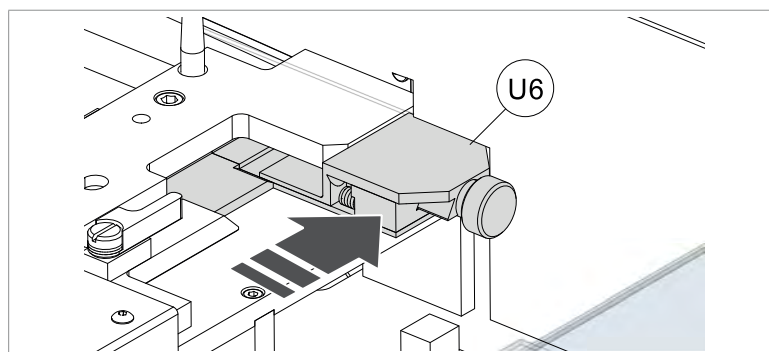

Fig. 134
- 17) Open the flap and take the feeder plate up against the transfer unit, ensuring it is all the way in (Fig. 134).